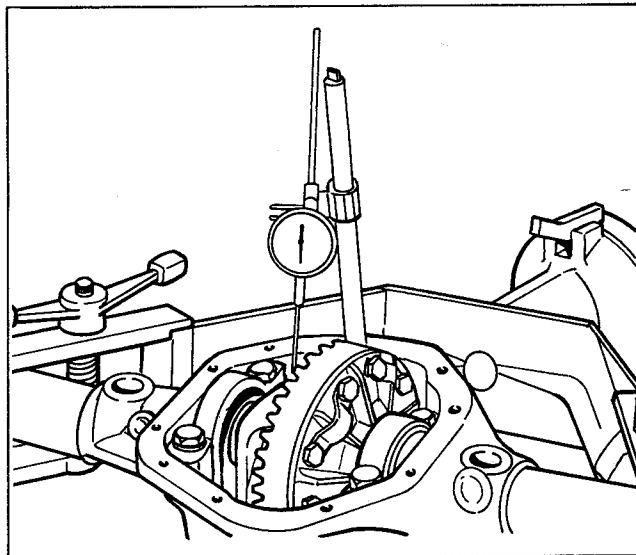

Figure 2-18. Checking Backlash
23. Set up dial indicator and with contact point on a drive gear tooth, check backlash between drive gear and drive pinion. See Figure 2-18. Check backlash at four equally spaced points around drive gear. Backlash must be held between .004" to .009" and cannot vary more than .002" between positions checked. If backlash does not fall within these specifications, change shim packs on both differential bearings. See Step 19.
24. Install gasket (3) and cover (2) using a new gasket. Torque cover screws to 20 ft.-lbs.